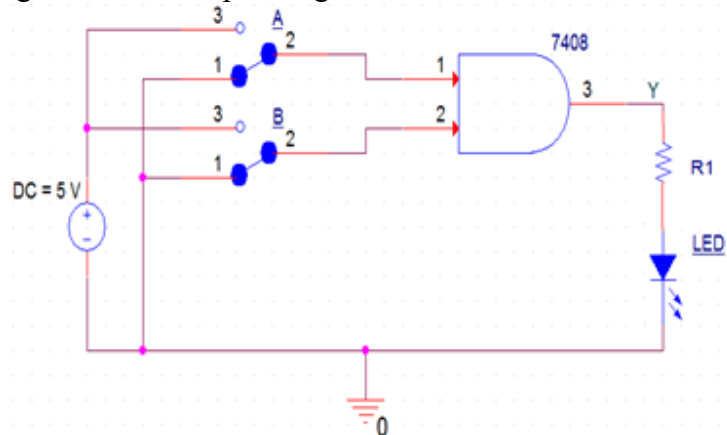

Figure 2.2 - Design schematic of a two-input AND gate.
2. Figure 2.2 shows the schematic diagram for this experiment.